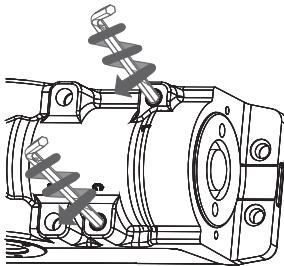

Figure 10
- Four (4) on door for closer.
- Four (4) on frame soffit for the 28PTPB angle bracket.
3. Close "C" and "L" valves on the closer body. (Figure 10)